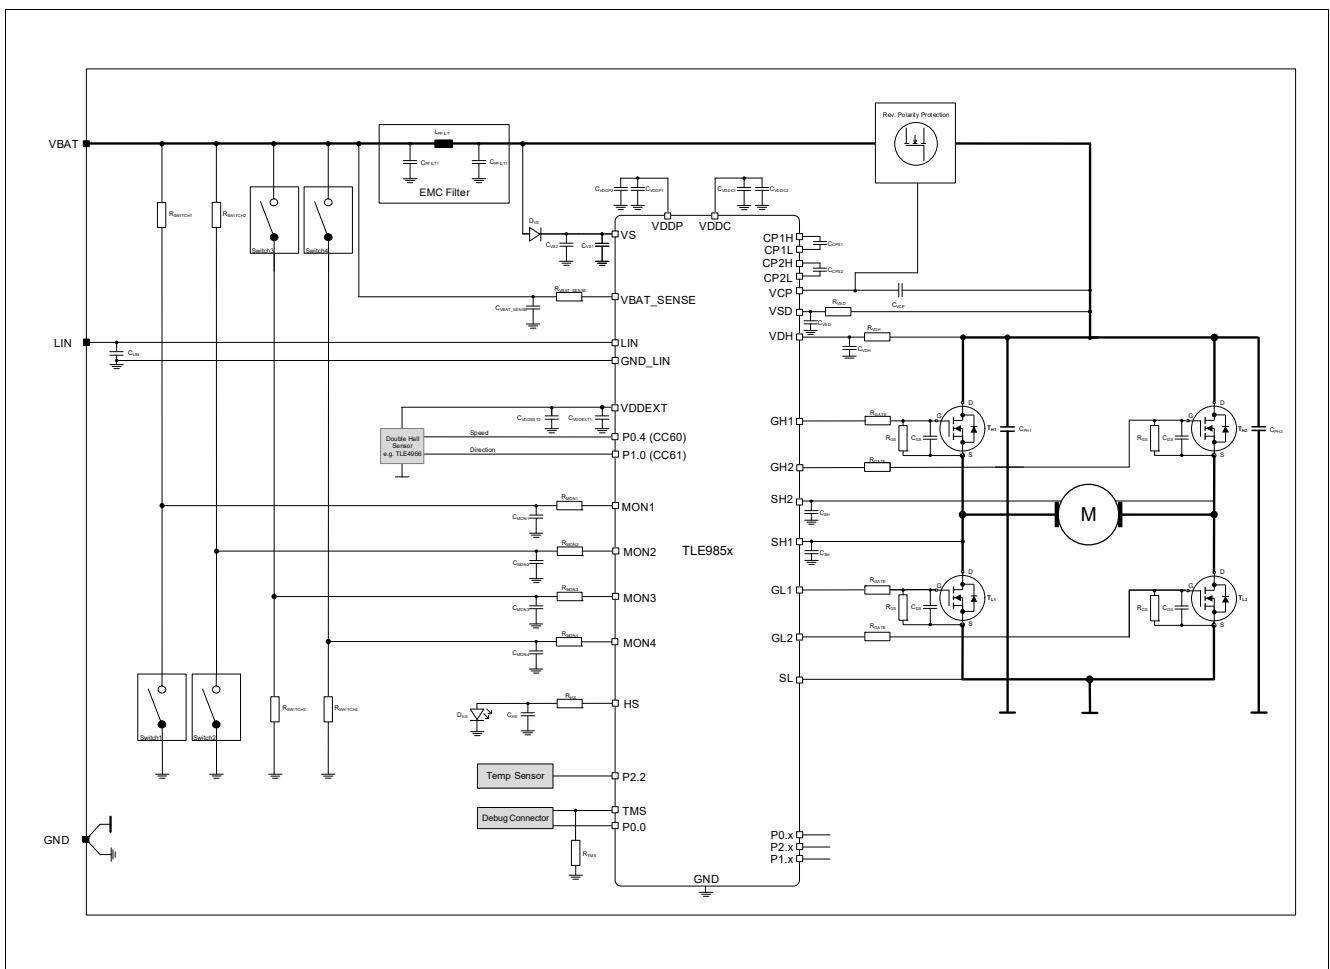

Figure 41 Simplified Application Diagram Example
- 2) With external circuit as shown in Figure 41.